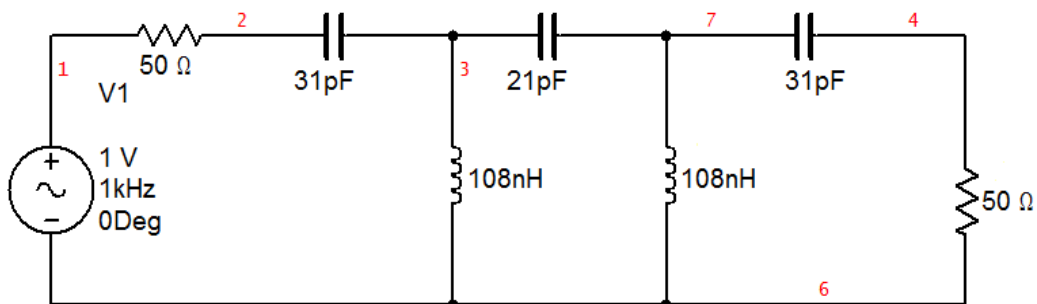

Fig: 17
Finally we calculate the actual values of components using (2) and get the fig. 17.
1. Connect the circuit as shown in fig. 17.
3. Find the BW of the circuit in fig. 17.